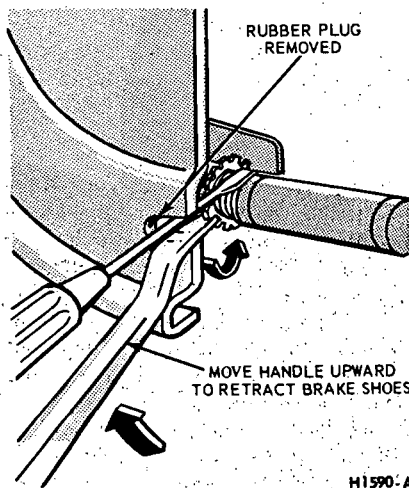

FIG. 13—Backing Off Brake Adjustment
4. If the drum will not come off, pry the rubber cover from the brake backing plate. Insert a narrow screwdriver through the slot and disengage the adjusting lever from the adjusting screw. While holding the adjusting lever away from the screw, back off the adjusting screw with the brake adjusting tool (Fig. 13). **Be very careful not to burr, chip, or damage the notches in the adjusting screw; otherwise the self-adjusting mechanism will not function properly.**
2. Remove the hub cap and wheel. Remove the three Tinnerman nuts and remove the brake drum. If the drum will not come off, pry the rubber cover from the backing plate. Insert a narrow screwdriver through the hole in the backing plate, and disengage the adjusting lever from the adjusting screw. While holding the adjusting lever away from the adjusting screw, back off the adjusting screw with the brake adjusting tool (Fig. 13). **Be very careful not to burr, chip, or damage the notches in the adjusting screw; otherwise, the self-adjusting mechanism will not function properly.**